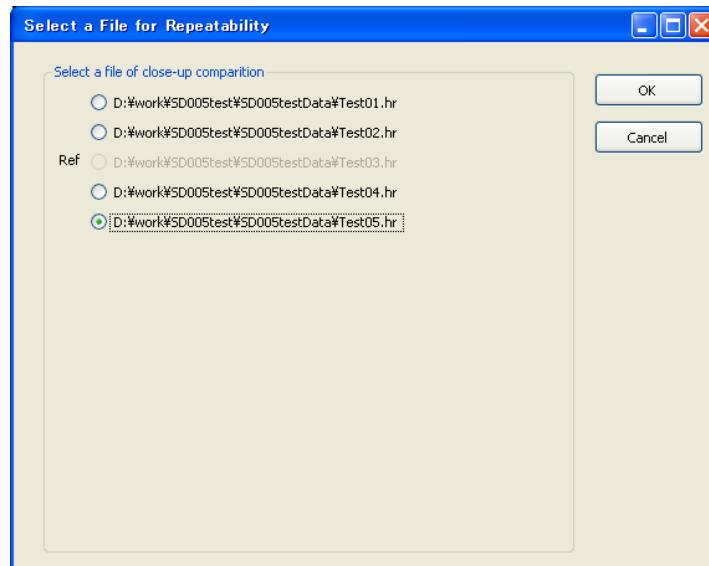

Fig.4-46 Select file for repeatability
- I0** If you selected Repeatability List in Step 6, the **Select a File for Repeatability** dialog box shown in Fig.4-46 opens. Select the comparison file to be printed and click the **OK** button.
- II** If a printed report already exists, the dialog box shown in Fig. 4-46 opens. If you want to overwrite the report PDF, click the **Yes** button. Otherwise, click **No** to quit the report printing.